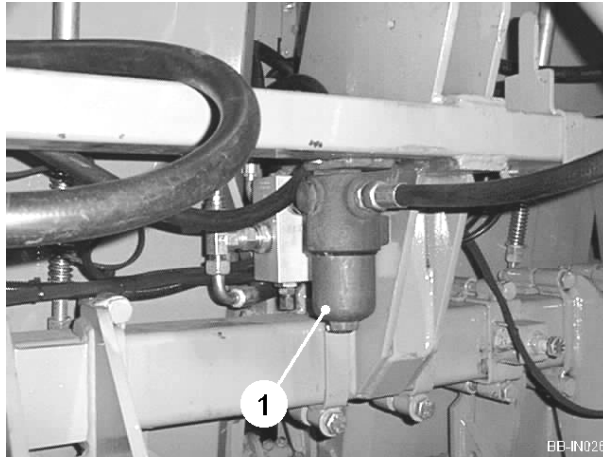

Fig 31
The pressure filter (item 1, figure 31) should be replaced after the first 50 hours running time and then every 500 hours or annually thereafter.